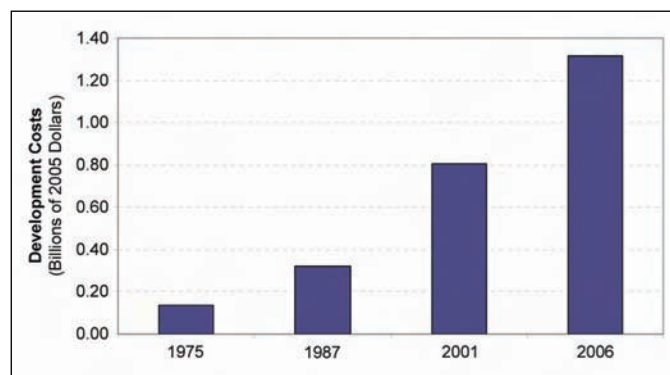
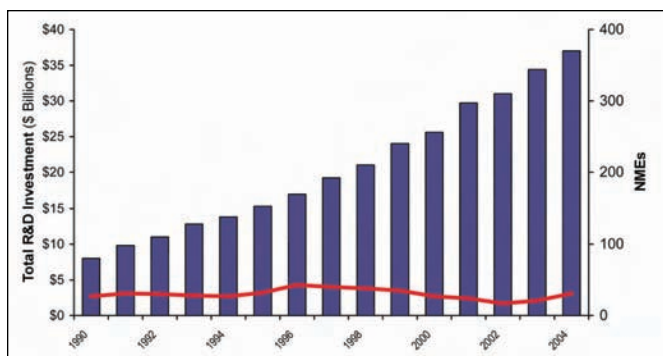

Figure 1. Growth in drug development costs – 1975 to 2006. (Source: Pharmaceutical Research and Manufacturers of America (2008))
Figure 3. Pharmaceutical industry productivity vs. R&D investment. (Source: Pharmaceutical Research and Manufacturers of America (2000, 2008))
The business environment for large pharmaceutical companies has changed considerably in recent years. The cost of developing a new drug (Figure 1) has risen nearly four times to \$1.3 billion since 19871 and pharmaceutical companies are now spending an average of 17 percent of sales (Figure 2) or about \$3 billion per year on R&D activities. At the same time, pharmaceutical companies also are witnessing an industry-wide decline in R&D productivity - *Figure 3*. These pressures are prompting an increasing number of pharmaceutical companies to undertake various change initiatives ranging from mergers and acquisitions and partnering with biotechnology firms to strategically outsourcing a number of activities across the value chain, including support functions such as Information Technology (IT), human resources, and finance to control costs and improve revenues by reducing the time-to-market of new drugs.